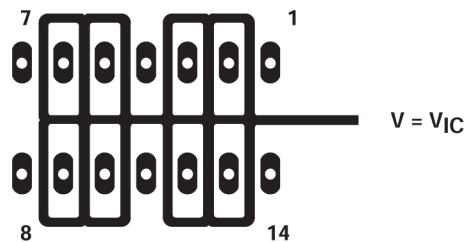
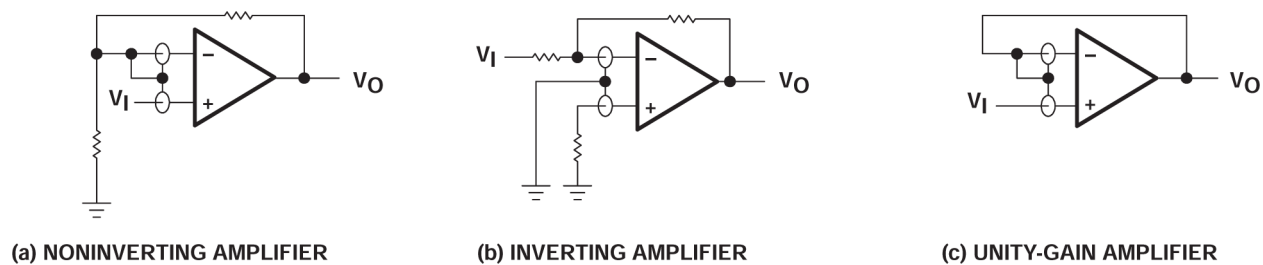

Figure 6-4. Isolation Metal around Device Inputs (N Package)
Figure 7-5. Guard-Ring Schemes
1. Isolate the device from other potential leakage sources. Use a grounded shield around and between the device inputs (see Figure 6-4). Leakages that can otherwise flow to the inputs are shunted away.
Because of the extremely high input impedance and resulting low bias-current requirements, the TLC27Lx are an excellent choice for low-level signal processing. However, leakage currents on printed-circuit boards and sockets sometimes easily exceed bias-current requirements and cause a degradation in device performance. As best practice, include guard rings around inputs (similar to those of Figure 6-4 in the *Parameter Measurement Information* section). Drive these guards from a low-impedance source at the same voltage level as the common-mode input (see Figure 7-5).